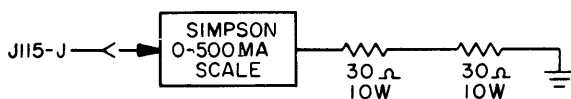

Figure 5-3. Power Supply, Test Setup
c. POWER SUPPLY BOARDS Z303 AND Z304. (See figure 5-3.) Align the power supply boards as follows:
- (1) Plug in ac line cord; STANDBY lamp should light.
- (2) Turn POWER switch to ON position; red POWER lamp should light.
- (3) Measure dc voltage at pin 6 of J304 (approximately 45 volts).
- (4) Allow fifteen (15) minutes warm-up.
- (5) Using Simpson 260A, measure dc voltage level at J304 pin A (approximately +40 volts).
- (6) Measure dc voltage level at pin E (approximately +20 volts).
- (7) Measure dc voltage level at J303 pin E (approximately +20 volts).
- (8) Measure dc voltage level at pin A (approximately +40 volts). Turn potentiometers R3 and R12 fully cw.
- (9) Measure dc voltage at pin F. Adjust potentiometer R8 for exactly 12.0 volts (all cards tested and inserted except Z115 (subparagraph o.)). Connect scope to pin F. Maximum ac ripple should be 5 mv. Adjust R3 until voltage level just starts to drop. Back off slightly to full voltage.
- (10) Measure dc voltage at pin 4. Adjust potentiometer R18 for exactly 24.0 volts. Connect scope to pin 4. Maximum ac ripple should be 2 mv. Adjust potentiometer R12 until voltage level just starts to drop. Back off slightly to full voltage.
- (11) Measure dc voltage at J301 pin E (30 volts \pm 1 volt).
- (12) Turn POWER switch to STANDBY position and METER switch to Q1 position. Adjust potentiometer R106 (meter adjust) for equal readings on front panel meter and Simpson Model 260, with set-up shown in figure 5-3.